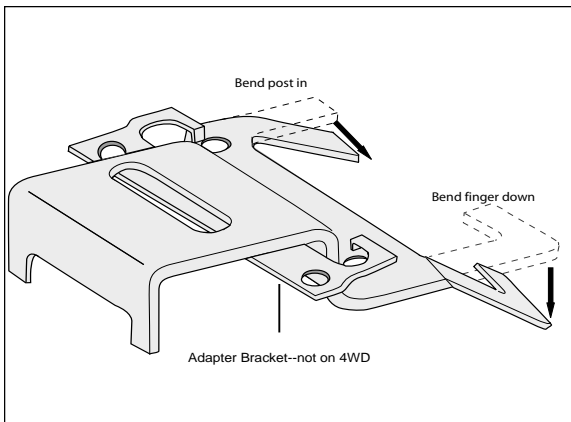

Figure 5
*NOTE: On most models, the finger and the post of the lower bracket may not hook around the U-bolt. In this case, bend the post in to the spring and bend the finger down so it locks around the U-bolt. Refer to Figures 5 and 6.*
*NOTE: On most models, the finger and the post of the lower bracket may not hook around the U-bolt. In this case, bend the post in to the spring and bend the finger down so it locks around the U-bolt (Figures 5 and 8).*